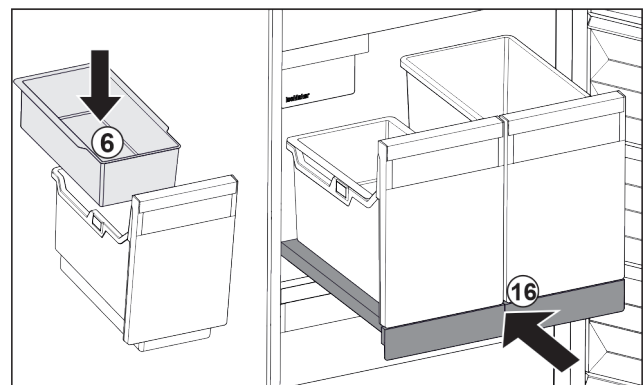

Fig. 91
- ▶ Insert hang-on tray Fig. 91 (6) for ice cubes.
- ▶ Slide in the pull-out board with container (IceTower). Fig. 91 (16)